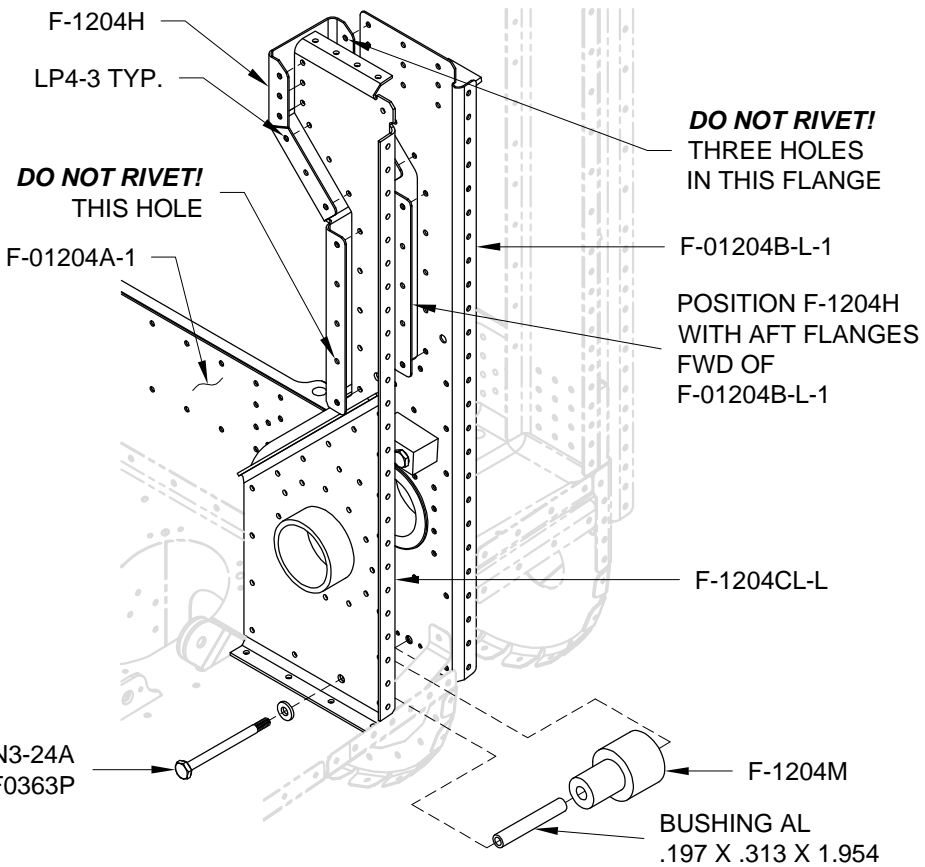

FIGURE 2: INSTALLING F-1204H & F-1204M ON LEFT SIDE
Step 4: Slide the called out bushing into F-1204M then install them between the F-01204B-L-1 and F-1204CL-L using the hardware called out in Figure 2. (The bolt is secured with the nutplate already attached to the aft side of F-01204A-1.)